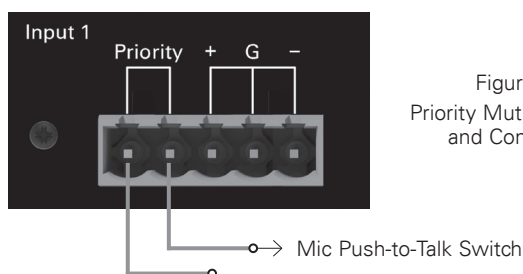

Figure 3.1
2. Connect a push-to-talk mic contact to the Priority Connector (Figure 3.1). Input 1 is the priority input for the amplified output, so Input 1 mutes the other inputs.